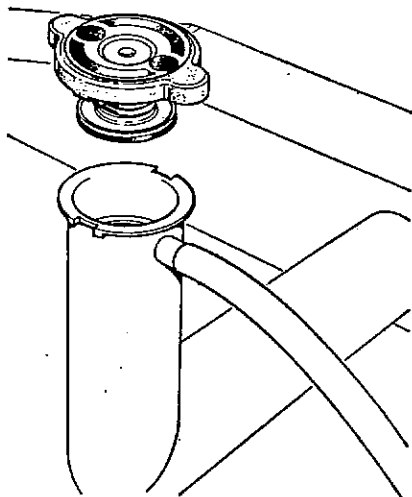

Fig. 17. Radiator Filler Cap
1. Remove radiator top cap (fig. 17).
WARNING: It is dangerous to remove the radiator cap when the water is hot as the system is pressurised. Remove the radiator filler cap (fig. 17) and if necessary, top up to a level 1 in. above the top of the tubes in the radiator. It is preferable to use soft water as hard water produces a calcium scale which in time will affect the efficiency of the cooling system.